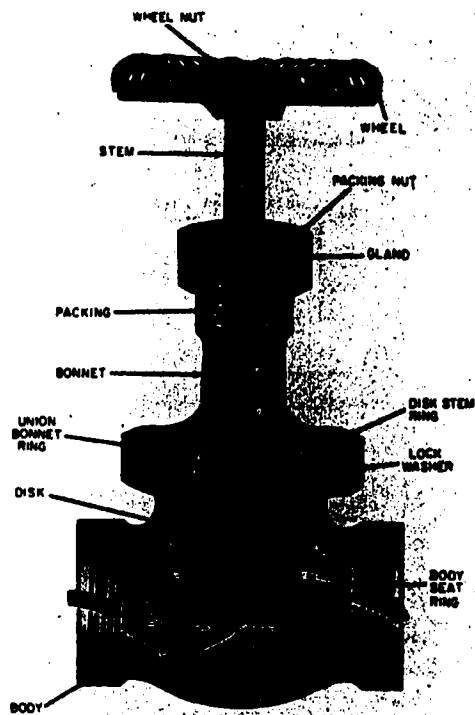
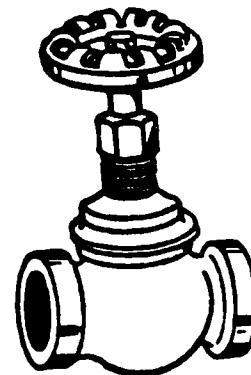

Fig 1-32. Globe valve (cutaway).
Fig 1-33. Globe valve.
- Globe valve:** Figure 1-32 shows a globe valve's cutaway view, and figure 1-33 shows an outside view. The globe valve is used to regulate the rate of flow in one direction only. The globe valve has an arrow or inlet and outlet marking on its body which shows how the valve should be installed in relation to the direction of flow. This valve differs slightly from the gate valve. As can be seen in figure 1-32, the flow of water is stopped when the disc enters its "seat" in the middle of the valve. The disc is like a plug and will prevent the flow of water. If the situation were as shown in figure 1-32, the water would be prevented from flowing from left to right. The disc may be replaced if it becomes worn. When shutting off a valve, just enough pressure should be exerted to stop the flow because excessive tightening could damage the valve.